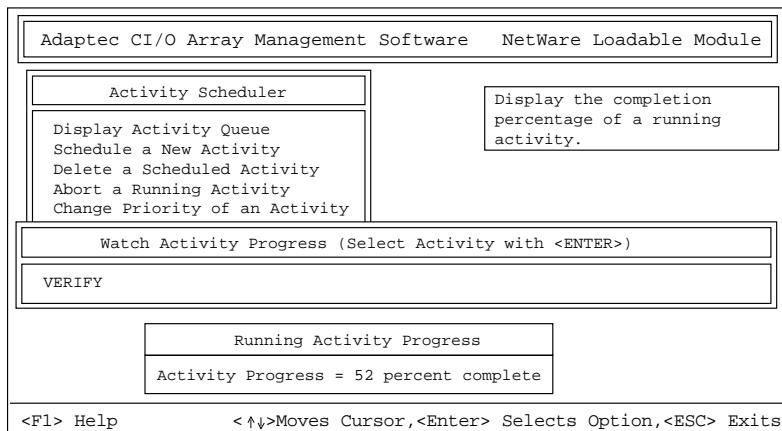

Figure 6-3. Running Activity Progress Window
- 3 Highlight an activity in the Watch Activity Progress window and press **Enter**. A Running Activity Progress window appears, as shown in Figure 6-3.